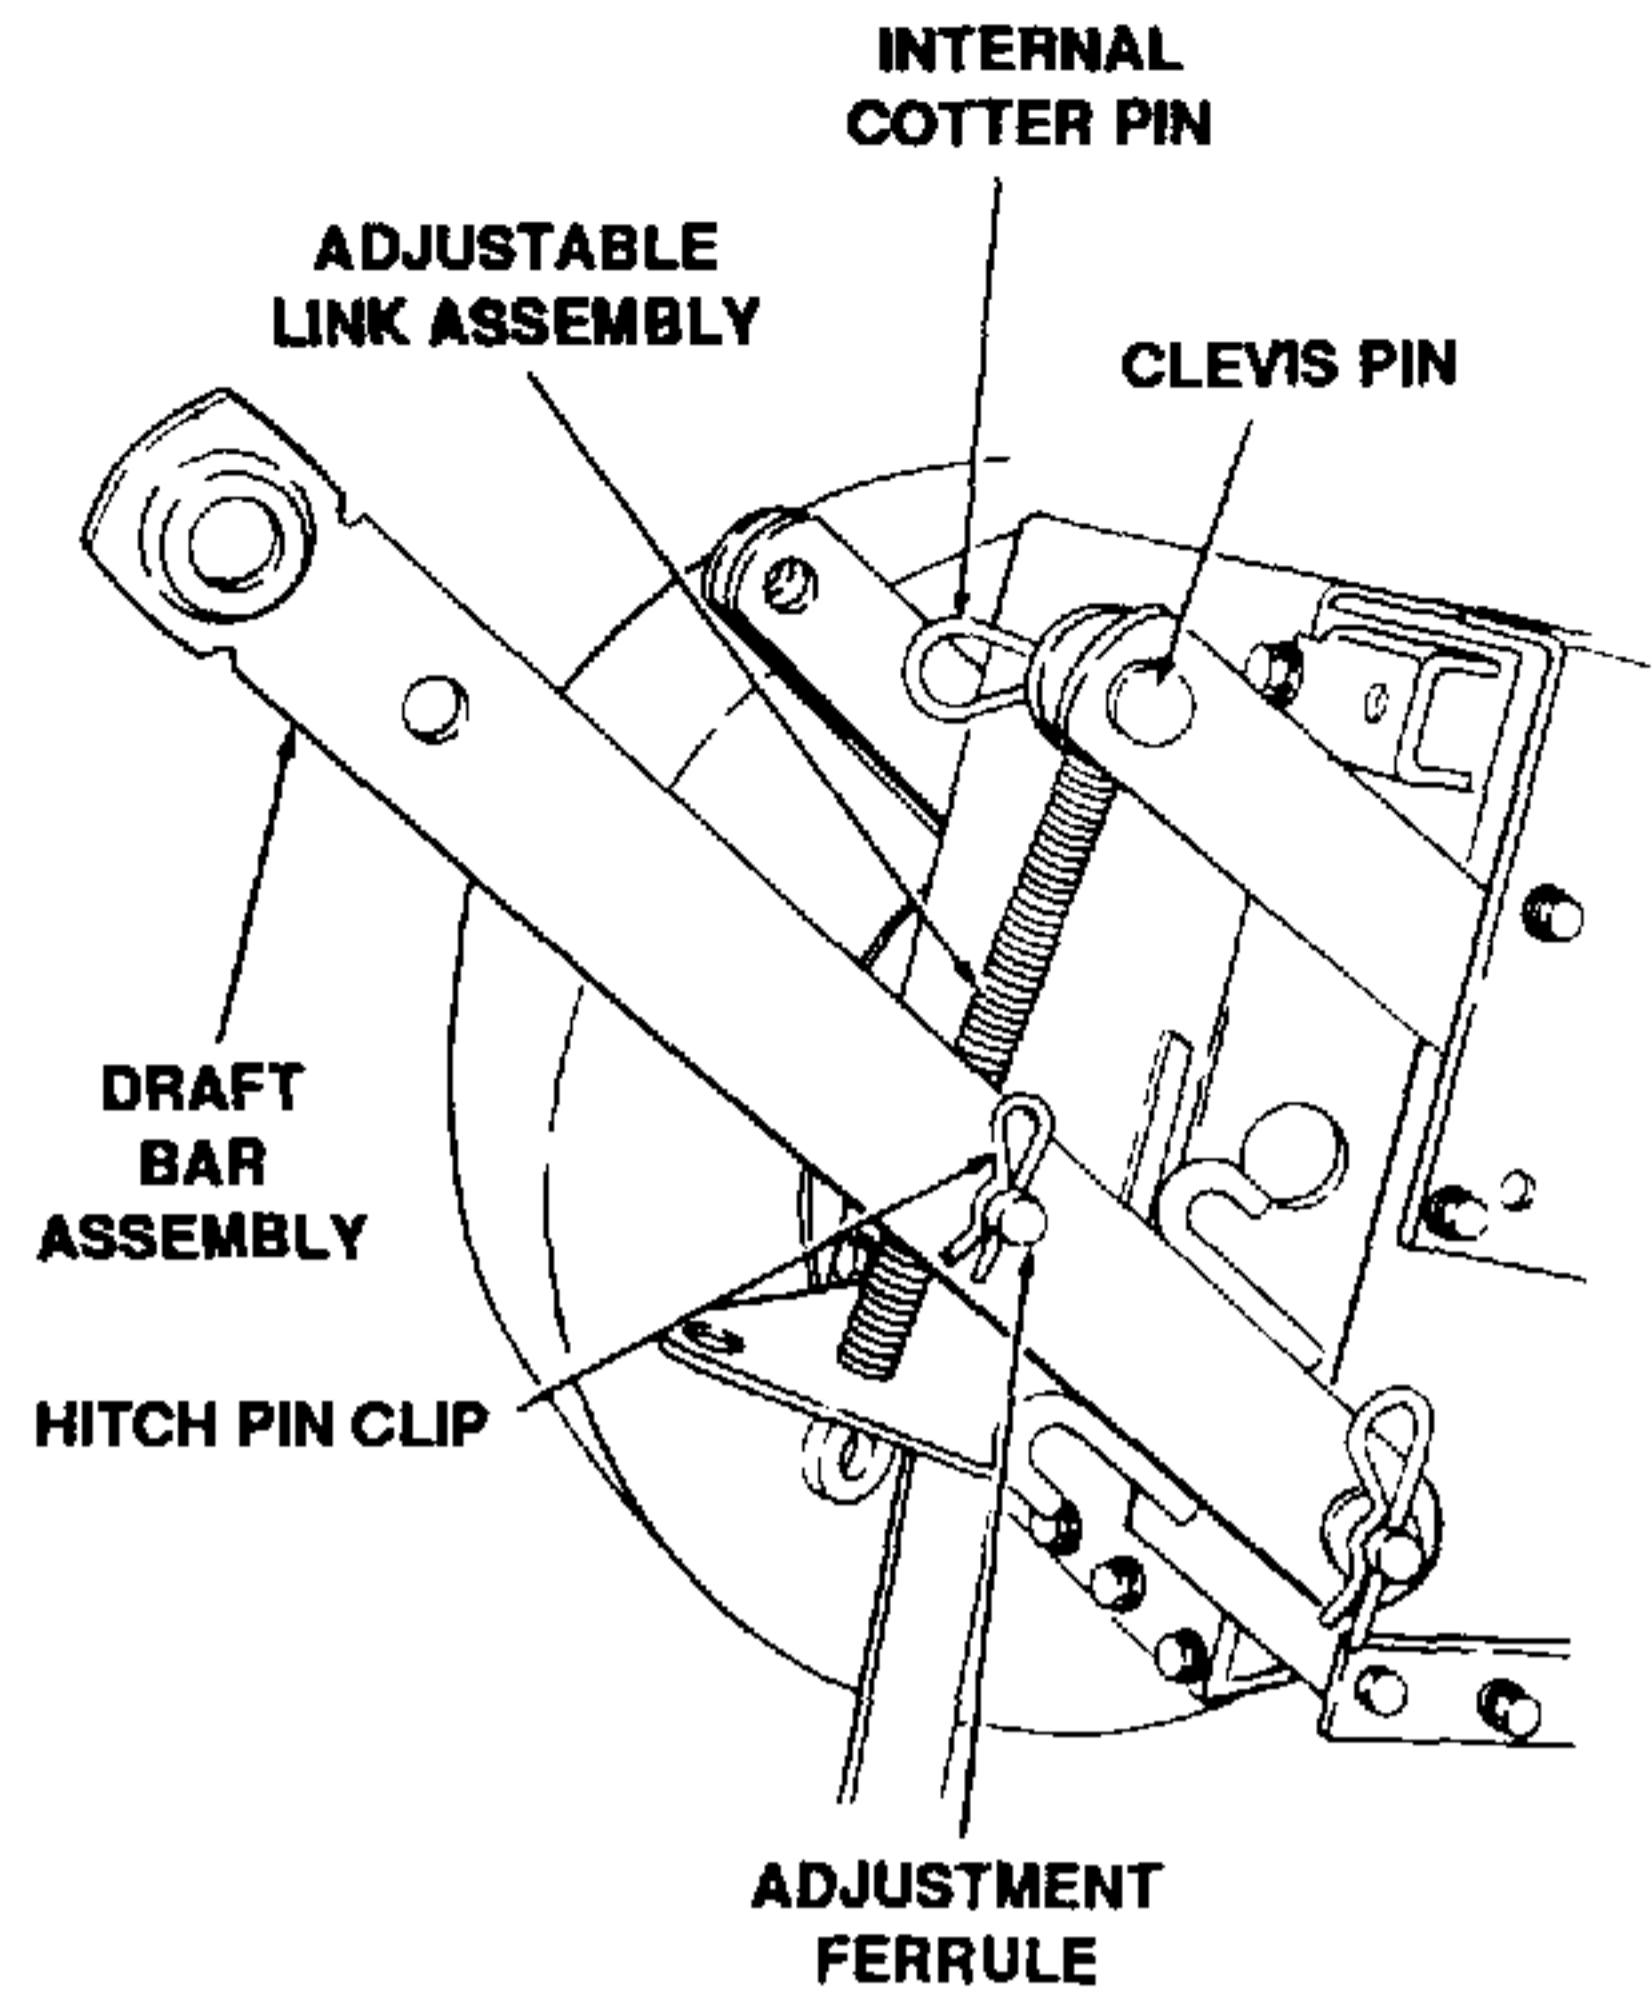

Figure 7-59. Securing Adjustable Link Assembly to Draft Bar Assembly.
- b. Secure adjustable link assembly to draft bar assembly by placing hitch pin (18, Figure 7-40) through adjustment ferrule. Refer to Figure 7-59.
- c. Place looped end of adjustable link assembly inside external arm of 3-point hitch plate assembly and insert clevis pin (19, Figure 7-40). Secure with 5/8-inch internal cotter pin (15). Refer to Figure 7-59.